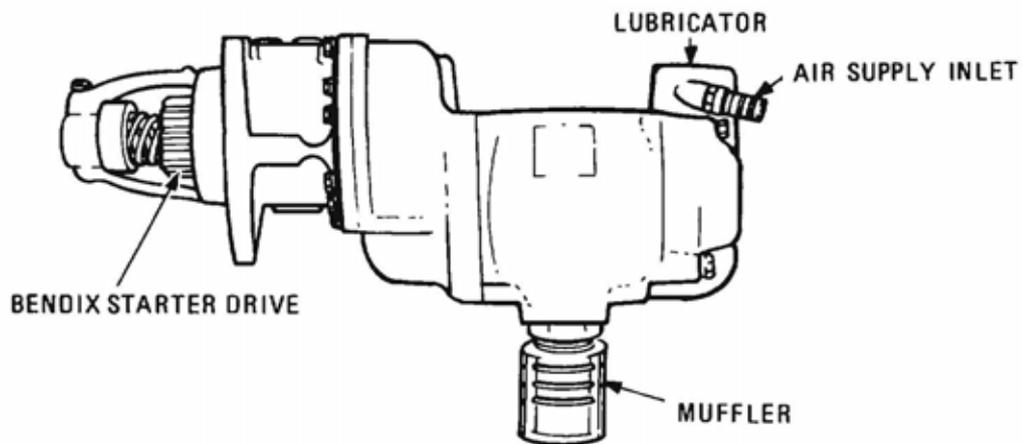

Figure 119 Air Starting Motor
**168.** An Ingersoll-Rand 150 BM series air driven starting motor is used for starting the diesel engine. It consists of a five-varied air motor with gear reduction, which drives the engine flywheel through a conventional Inertia drive. An air storage reservoir provides air for the engine starter motor at a maximum pressure of 827 kPa (120 psi). A muffler is installed on the starter motor air outlet to bring starter noise down to an acceptable level. To keep the air starter lubricated, a special lubricator is used. The lubricator meters out the exact amount of diesel fuel required at each start to prolong starter life and performance (Figure 119).